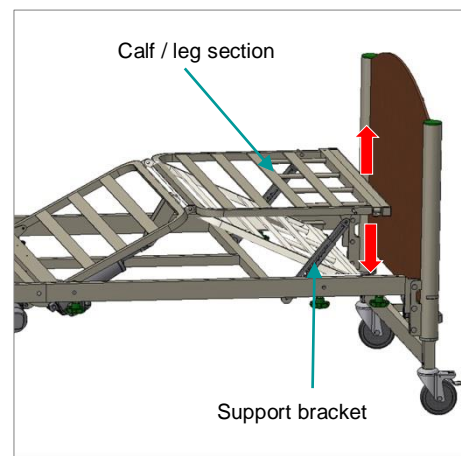

Figure 16: Lowering manual calf section
- To lower the calf/leg section (from raised height), fully raise calf/leg section manually and then gently lower it down (*Figure 16*). Then press and hold the Down Knee-Break Adjustment Button on the handset.